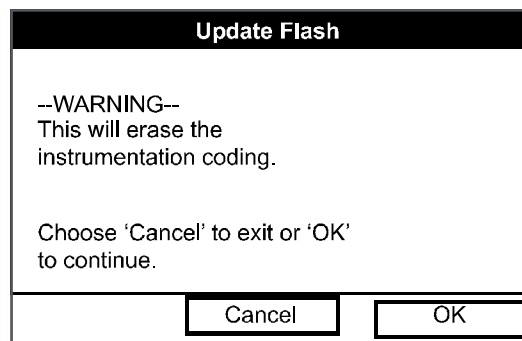
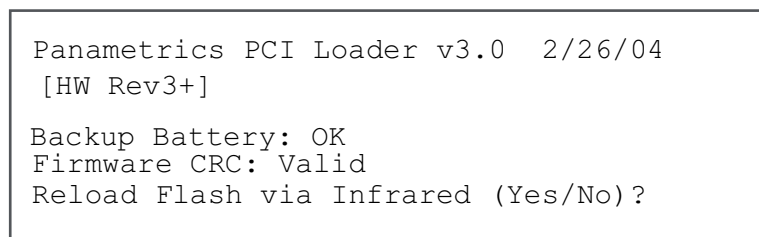

Figure 158: The Flash Update Option
Figure 159: Flash Reloading Window
To begin the loading procedure, scroll down to the Flash Update entry in the Service Menu and press **[ENTER]**. The screen appears similar to *Figure 158*.
1. As shown in *Figure 158*, the Flash Update option erases all instrument coding.
- Press **[F3]** (OK) to confirm that you wish to erase the program.
2. The meter asks for confirmation. Repeat the options shown in Step 1 above. The screen on both the PC and the PT878GC now appears similar to *Figure 159*.